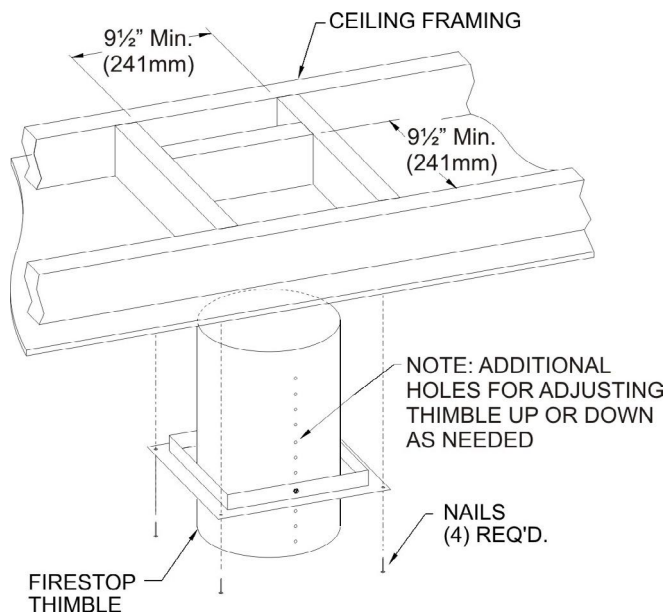

Figure 22
4. Once the fireplace location has been determined, mark the ceiling where the flex vent will pass through. Cut an opening in the installation of the firestop thimble assembly. The opening must measure a minimum of 9-1/2" x 9-1/2" square. **See Figure 22.**